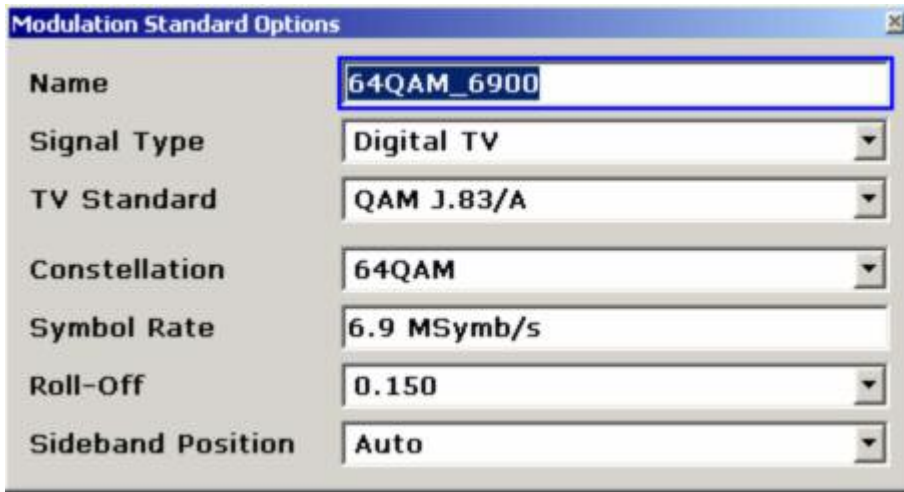

Fig. 2–48 **Modulation Standard Options** dialog box for digital TV
- The channel table references modulation standards by their **Name**. Its name (see Fig. 2–48) should comprise information about the used constellation and the symbol rate, e.g. "64QAM_6900".